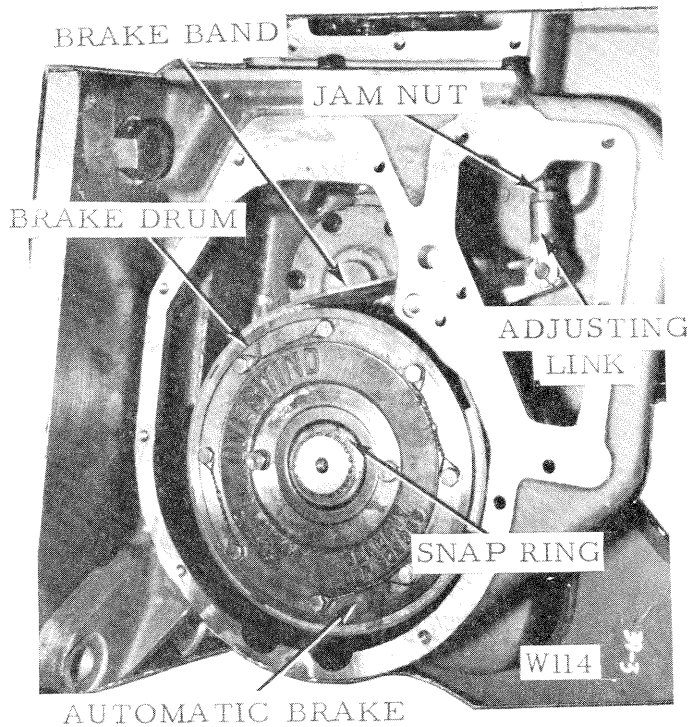

Figure 23
3. Loosen the jam nut on the adjusting link. Fig. 23. Lengthen the link by turning it to the left until the band is wrapped snugly around the drum; then shorten it until the drum is free to turn without dragging. Tighten the jam nut. It
This assembly mounts on the brake shaft and is held in position by an inner snap ring and an outer snap ring. Fig. 23.
2. Remove the outer snap ring. Fig. 23. Pull the brake assembly off the brake shaft.
2. Install the outer snap ring. Fig. 23. Adjust the brake band if necessary. Install the winch cover. Fig. 16.